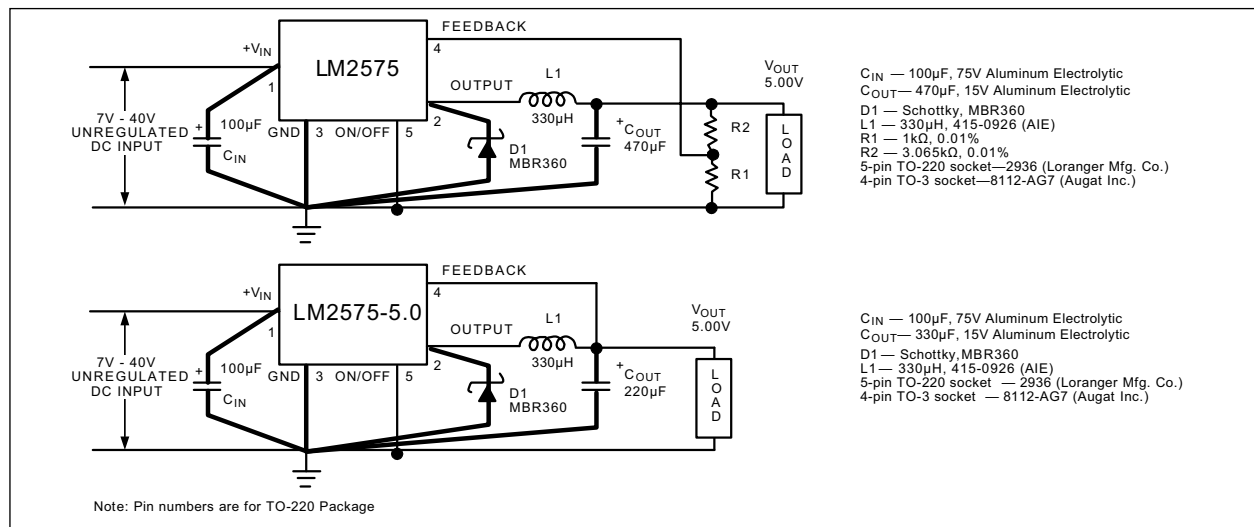

FIGURE 1-1: Test Circuits and Layout Guidelines.
System Parameters, Adjustable Regulators (Note 2) See Figure 1-1
System Parameters, 3.3V Regulators (Note 2) See Figure 1-1
System Parameters, 5V Regulators (Note 2) See Figure 1-1
System Parameters, 12V Regulators (Note 2) See Figure 1-1
ON/OFF Control, Fixed and Adjustable Regulators, See Figure 1-1
- 2:** External components such as the catch diode, inductor, input and output capacitors can affect switching regulator system performance. When the LM2575 is used as shown in Figure 1-1 test circuit, system performance will be shown in system parameters section of Electrical Characteristics.